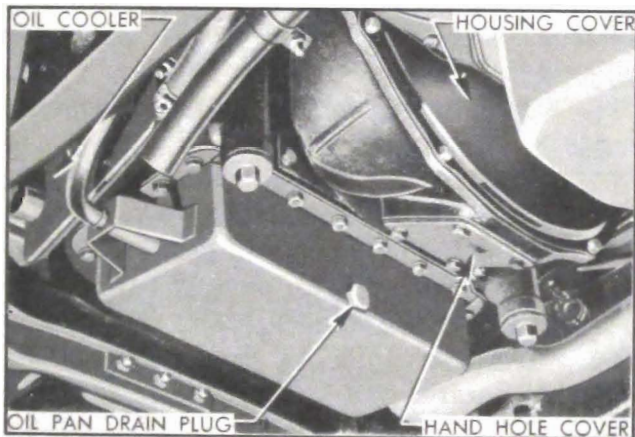

Figure 4-45—Right Side of Dynaflo Transmission Installation
5. Remove bell housing cover and bell housing hand hole cover. See figure 4-45.